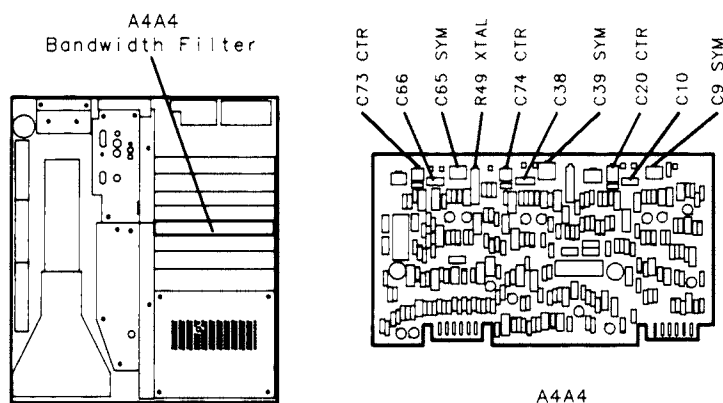

Figure 3-42.
17. Adjust A4A4C20 CTR to center signal on center graticule line. Adjust A4A4C9 SYM for best symmetry of signal. See Figure 3-42 for location of adjustments. If unable to adjust SYM for satisfactory signal symmetry, increase or decrease value of A4A4C10. Refer to Table 3-3 for range of values.
19. Adjust A4A4C74 CTR to center signal on center graticule line. Adjust A4A4C39 SYM for best symmetry of signal. See Figure 3-42 for location of adjustments. If unable to adjust A4A4C39 SYM for satisfactory signal symmetry, increase or decrease value of A4A4C38. Refer to Table 3-3 for range of values.
21. Adjust A4A4C73 CTR to center signal on center graticule line. Adjust A4A4C65 SYM for best symmetry of signal. See Figure 3-42 for location of adjustments. If unable to adjust A4A4C65 SYM
25. Adjust A4A4R49 XTAL to align markers on display. MARKER **Δ** level should indicate 1.00 X. See Figure 3-42 for location of adjustment.